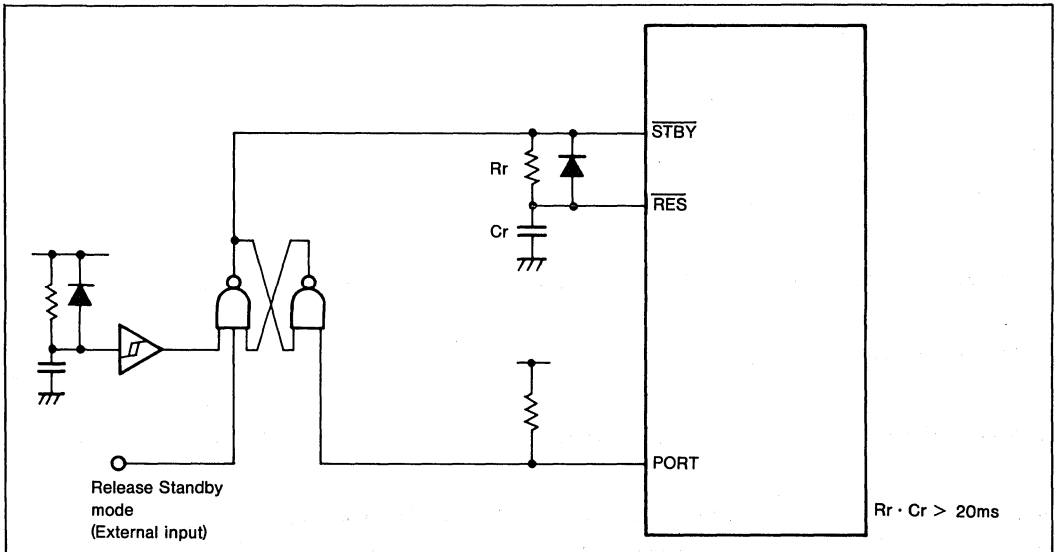

Figure III-13. Reset Input Circuit
**Question:** Does  $C_r$  in the reset circuit shown in figure III-13 ( $R_r \times C_r > 20 \text{ ms}$ ), have an upper limit?